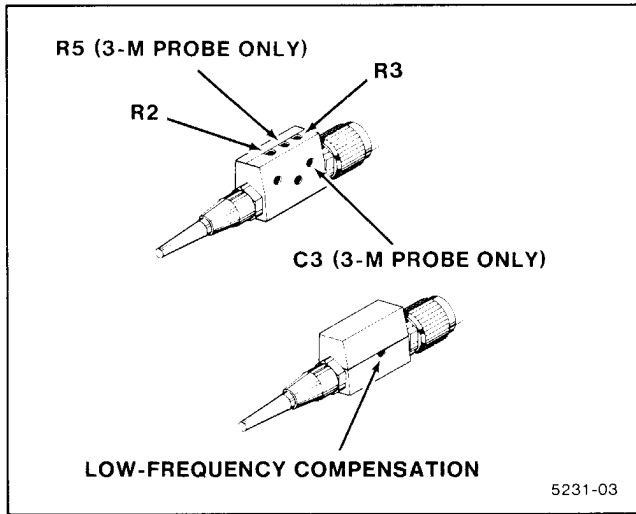
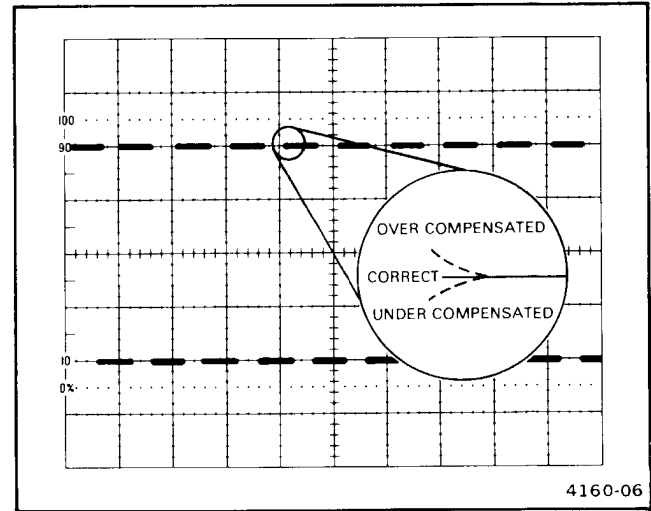

Figure 4-1. Compensation adjustments locations.
Figure 4-2. Low-frequency compensation.
e. ADJUST - Probe Low-Frequency Compensation control for the best flat top display on the wave form by using a low-reactance adjustment tool (Figure 4-1). Typical oscilloscope waveform displays for the range of the compensation control are shown in figure 4-2.
k. ADJUST – R2 and R3 for best overall flat response. (The 3-meter version of the probe has two additional adjustments, C3 and R5.) All of these adjustments should be made through access holes in the inner metal shield. See Figure 4-1 for locations.